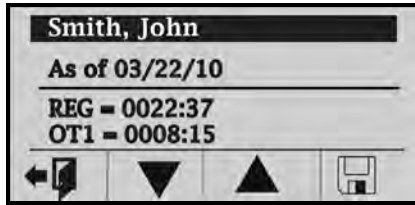

Figure 23: First Page of Employee Hours at Terminal
- The user can swipe his/her badge magnetic card or use the keypad to enter the ID number. Press **enter enter** to accept the ID number. The Time & Attendance software will download the numbers of hours worked in the pay period for each different category setup for each employee to all the MTX-15 terminals at a predetermined time every night. The date that the last download occurred will be displayed "As of MM/DD/YYYY" (see Figures 23 and 24). Each MTX-15 terminal will store the hour information for all employees in that location. The hours worked depends on the Time & Attendance software setup.